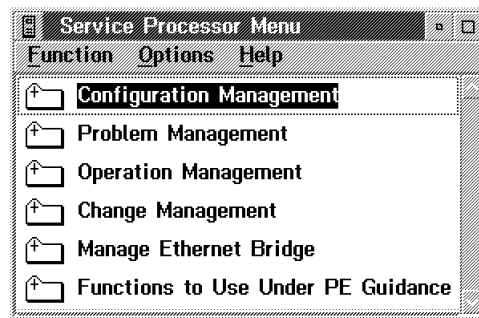

Figure 2-10. Service Processor Maintenance Functions
3. ____ Double click on "**Manage Microcode Change**" (see Figure 2-10 on page 2-7).